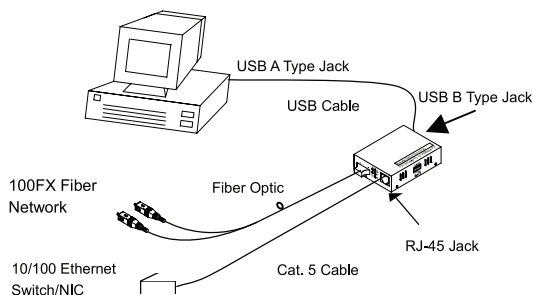

Fig. 1: Media Converter with USB power source (Type B-to-Type A Plug) and FX/TP connection
2. Install the USB cable. Plug type A connector in the PC's USB port and the type B connector in the Converter's USB port (see Fig. 1).